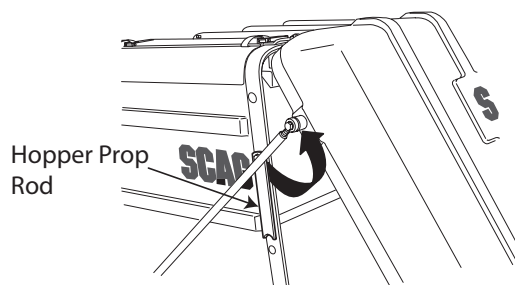

Figure 1-4. Hopper Door Prop Rod
6. When service is needed inside the hopper, disengage the deck drive and allow all moving parts to come to a complete stop. Shut off the engine and apply the parking brake. Rotate the hopper door prop rod upward until it contacts the hopper door. This will prevent the hopper door from moving until the service is complete. See Figure 1-4.